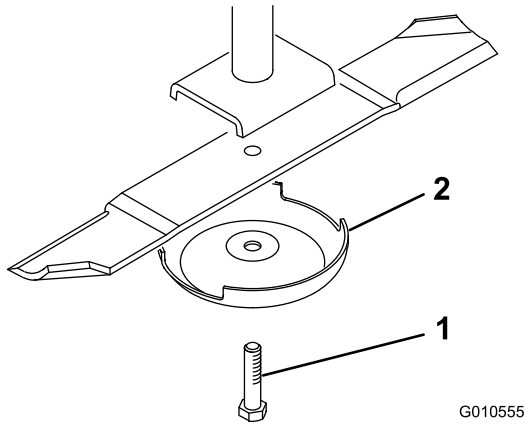

Figure 27
- Grasp the end of the blade using a rag or thickly padded glove. Remove the blade bolt, anti-scalp cup, and blade from the spindle shaft (Figure 27).